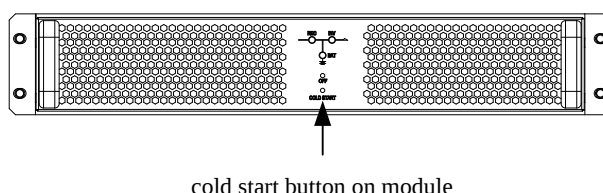

Figure 5-2 The position of the battery cold start button on module
4. Pressed into the cold starting button hole of all the power modules in turns and the power module indicator light are lighted. See Figure 5-2: